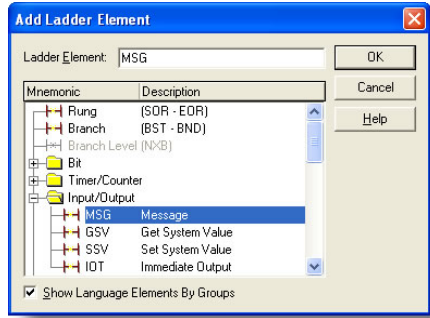

Figure 95: Adding a MSG Instruction
- d) Select the "MSG" instruction in the Input/Output folder. Refer to Figure 95.